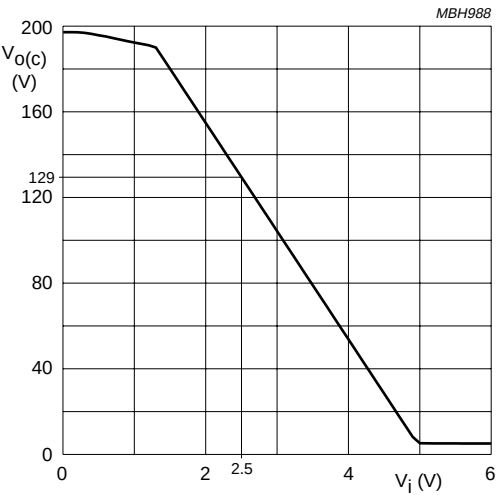

Fig.5 Typical DC-to-DC transfer of V_i to $V_{o(c)}$.
1. See also Fig.5 for the typical DC-to-DC transfer of V_i to $V_{O(C)}$.